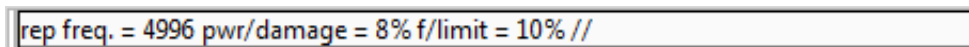

Figure 5.6: Actual average power ratio and signal truncation due to timing
- the top right message banner (Figure 5.6) shows **actual values**: the trigger frequency, alarms and warnings. The **power/damage** ratio value reflects the current RF power compared to the maximum allowed power for the currently active waveform. The parameter **f/limit** reflects the ratio of the measured repetition frequency over the maximum possible repetition rate, depending on trigger delay settings.